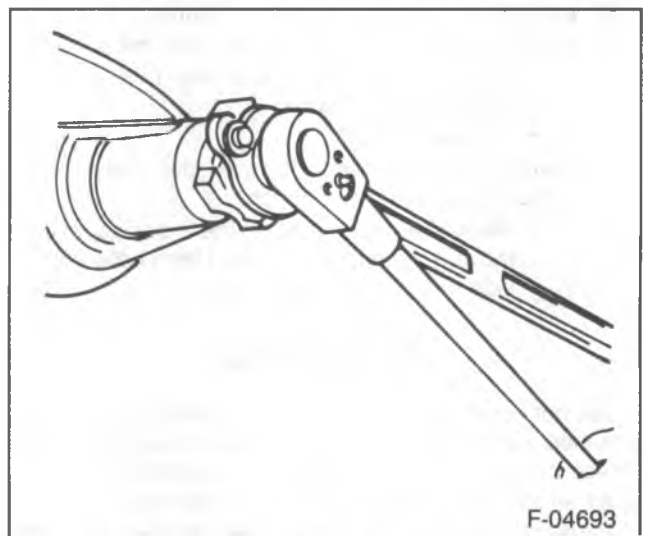

Figure 5—Removing the Drive Pinion Nut
16. Pinion flange nut (6) and washer (7) using J 8614-01 to hold the pinion flange (figure 5).